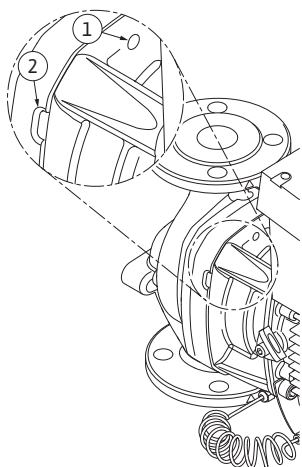

Fig. 51: Threaded holes and slots for pressing off the motor impeller unit from the pump housing
13. Press the motor impeller unit (see Fig. 13) off the pump housing. It is a good idea to use two threaded holes (Fig. 51, Item 1) for this; particularly to loosen the seating. Screw two suitable screws into the threaded holes to loosen the seating. If the motor impeller unit can be moved easily, slots (Fig. 51, Item 2) between the pump housing and the lantern can also be used for pressing off (for example, use two screwdrivers as levers to do this). After pressing out about 15 mm, the motor impeller unit will no longer be guided in the pump housing.